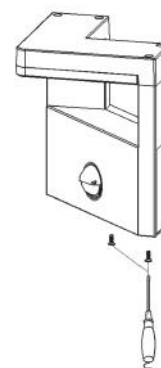

Figure 1.
- Screw off the nail on the bottom of sensor lamp and unload the bottom (refer to Figure 1).